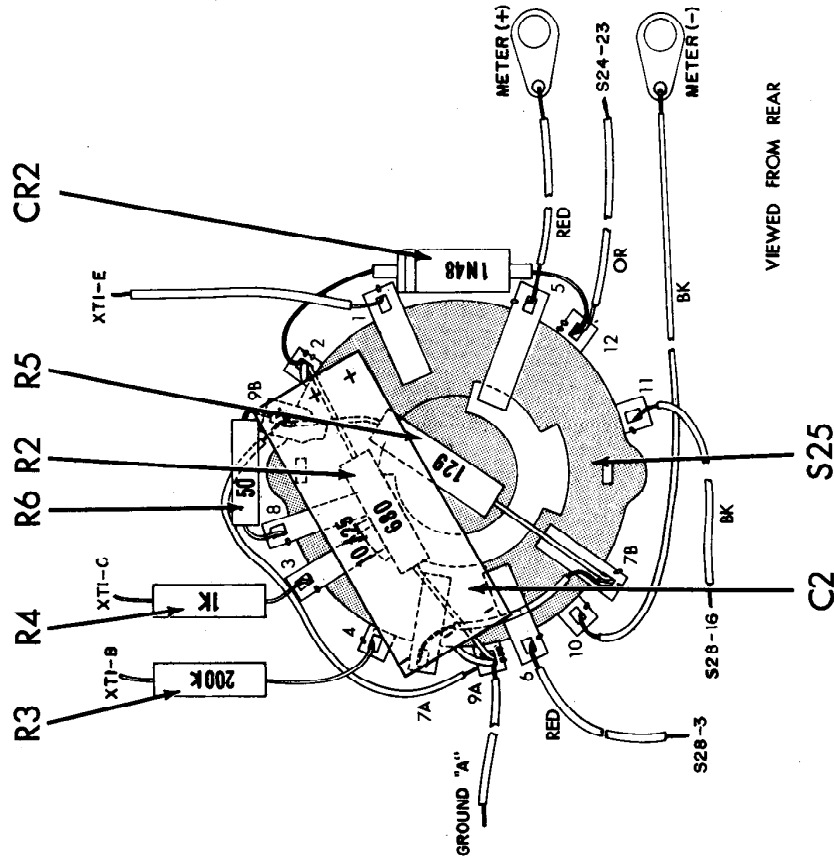

Fig. 7
- (✓) 1. Fig. 7. Connect a short length of bare wire, covered with spaghetti, from S25-7A (S) to S25-7B (C).
- (✓) 2. Fig. 7. Connect the 129 ohm resistor, R5, from S25-7B(S) to 25-9B (C).
- (✓) 3. Fig. 7. Connect a short length of bare wire, covered with spaghetti, from S25-9A (C) to S25-9B (C).
- (✓) 4. Fig. 7. Connect the 50 ohm resistor, R6, from S25-8(S) to S25-9B(S).
- (✓) 5. Fig. 7. Connect the 680 ohm resistor, R2, from S25-9A (C) to S25-2 (C).
- (✓) 6. Fig. 7. Connect the cathode end (identified by a stripe or similar mark) of the 1N48 diode, CR2, to S25-2 (C). Connect the unmarked end to S25-12 (C).
- (✓) 7. Fig. 7. Connect the POSITIVE (+) end of the 10 mfd/25 volt capacitor, C2, to S25-2 (S). When soldering this connection, it is advisable to protect the 1N48 diode from overheating. This may be done by holding the lead of the 1N48 going to S25-2 with a pair of pliers, or by fastening an alligator clip or similar device to the lead in order to dissipate as much heat as possible. Use a fairly hot iron, well tinned, and solder as quickly as possible. Connect the other end of C2 to S25-9A (C).
- (✓) 8. Fig. 7. Connect one end of a 3" bare lead to S25-9A (S). Leave the other end free.
- (✓) 9. Fig. 7. Connect one end of the 1K resistor, R4, to S25-3 (S) so that 1/2" of lead extends between the resistor and the terminal. Leave the other end free.
- (✓) 10. Fig. 7. Connect one end of the 200K resistor, R3, to S25-4 (S) so that 1" of lead extends between the resistor and the terminal. Leave the other end free.
- (✓) 11. Fig. 7. Connect one end of a 2" bare wire to S25-1 (S). Leave the other end free.
- (✓) 12. Fig. 7. Connect one end of an 11" orange lead to S25-12 (S). A gain, use an alligator clip or similar device between the 1N48 and S25-12. Leave the other end of the orange lead free.
(✓) 13. Fig. 7. Connect one end of a 6" black lead to S25-11 (S). Leave the other end free.
(✓) 14. Fig. 7. Connect one end of a 5" red lead to S25-6 (S). Leave the other end free.
(✓) 15. Fig. 7. Connect and solder a meter mounting lug (packed in the meter box) to one end of a 7" red lead. Connect the other end of the lead to S25-5 (S).
(✓) 16. Fig. 7. Connect and solder the second meter mounting lug to one end of an 8" black lead. Connect the other end of the lead to S25-10 (S).